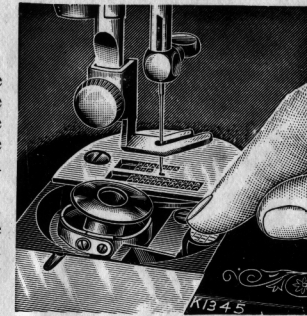
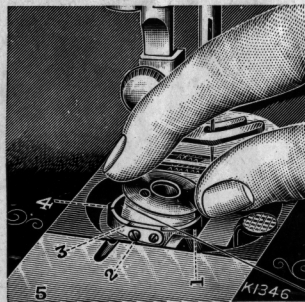

Fig. 6.
Fig. 8.
Do not work the machine with the bobbin case (1, Fig. 8) and needle threaded, except when sewing.
The slide (5, Fig. 8) must be kept closed.
Draw the slide (5, Fig. 8) to the left and press the forefinger of the right hand upon the bobbin ejector, as shown in Fig. 6. This will raise the bobbin so that it can be easily taken out.
(See Fig. 8).
Fig. 8. With the left hand draw the thread into the slot (3), back between the spring and side of the bobbin case until it reaches the notch (4) ; then across the bobbin towards the needle. Thereafter close the slide (5).
Raise the needle to its highest point, and remove the slide (5, Fig. 8) by raising its front edge.
thumb nut in the direction illustrated by the arrow, or to lessen the tension, turn the nut in the opposite direction. All machines are correctly adjusted before leaving the factory, and it is therefore seldom necessary to alter the under tension. Should it become necessary to do so, however, tighten the tension spring screw (2, Fig. 8) on the left hand side of the bobbin case to increase the tension, or loosen the screw slightly to lessen the tension.